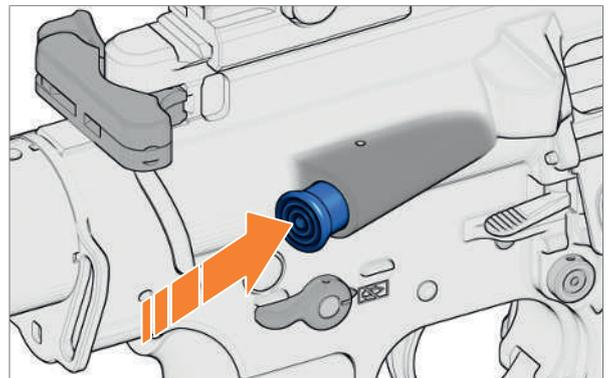

Fig. 23: Use forward assist
- › Press forward assist until the bolt group is locked (Fig. 23).